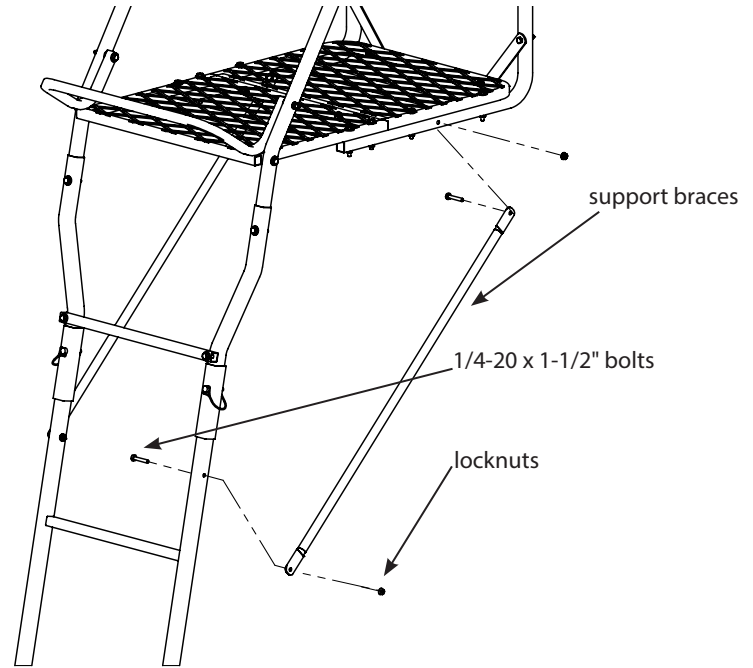

Figure 20
17. Attach the (2) support braces (410024) to the inside of platform support rails and outside of top ladder section w/ mounting holes using (4) provided 1/4-20 x 1-1/2" bolts and locknuts. **SEE FIGURE 20. Tighten securely. Be sure not to over tighten or crush tubing when tightening!**